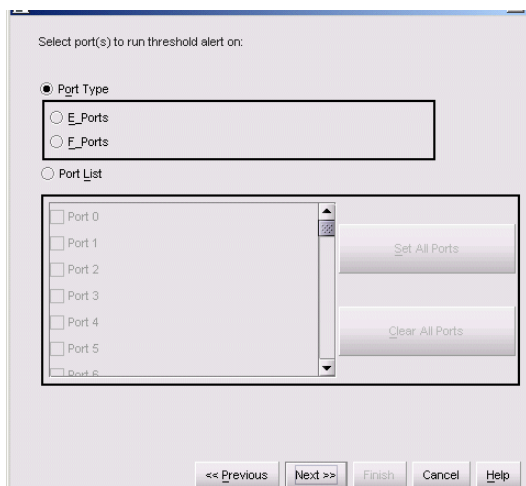

Figure 51 New Threshold Alerts dialog box - third screen
9. Click **Next**. A new screen displays for choosing ports for the alerts, as shown in Figure 51.